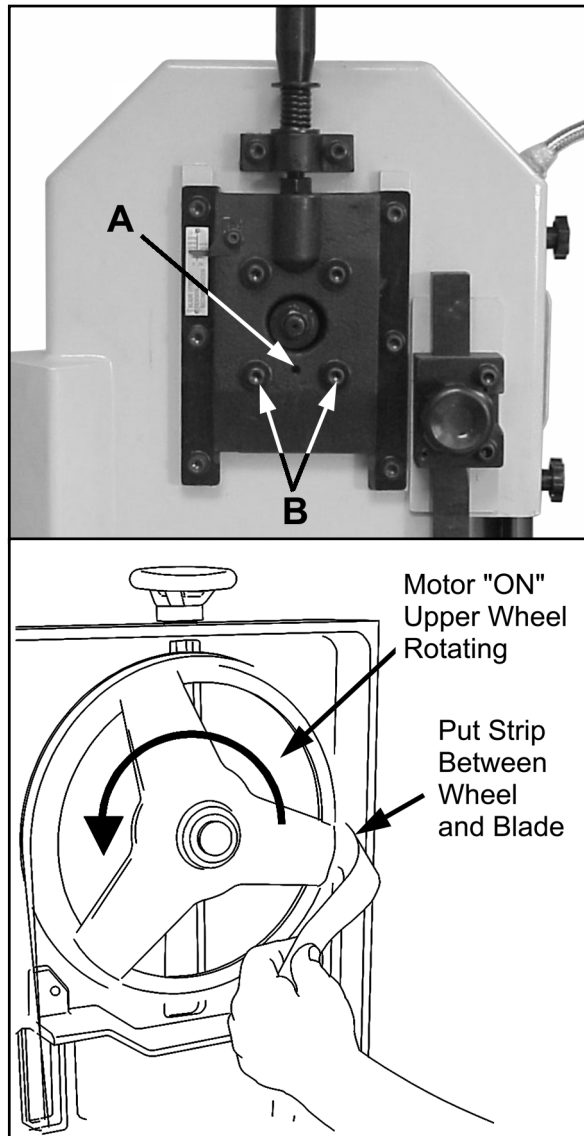

Figure 6: Blade Tracking Adjustment
2. Clamp the work piece in the vise. (Refer to Figure 6 for examples of how different shaped work pieces are clamped in the vise).
3. Loosen the two bottom bolts (Figure 6, Item B) on the wheel slide.
5. Turn the setscrew (Figure 6, Item A) so the blade starts to move away from the shoulder of the wheel; then immediately turn the setscrew in the other direction so the blade stops; then moves slowly towards the shoulder.
10. Tighten the two bottom bolts on the upper wheel slide (Figure 6, Item B).